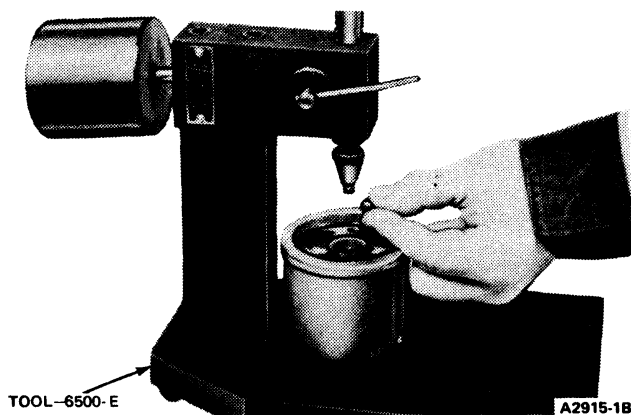

FIG. 3 Placing Steel Ball in Valve Lifter Plunger
3. Place the 5/16-inch steel ball provided with the tester in the plunger cap (Fig. 3).